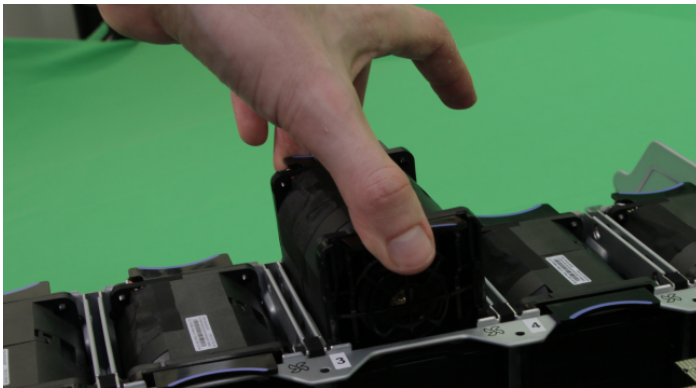

Figure 93. Removing the fan module
6. Hold the fan module between your finger and thumb at the blue touch points. Squeeze gently and lift the fan module out of the node canister, as Figure 93 on page 151 shows.